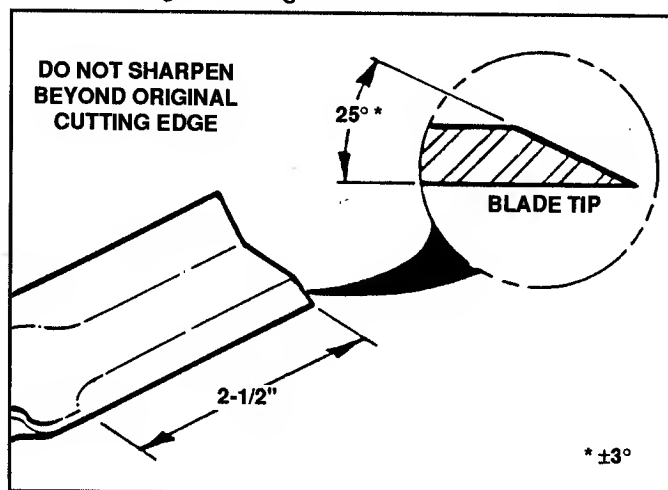

FIGURE 4.21
4. If blade is in good condition, sharpen at 25° ( $\pm 3^\circ$ ). Do not sharpen beyond existing cutting edge. See Figure 4.21.